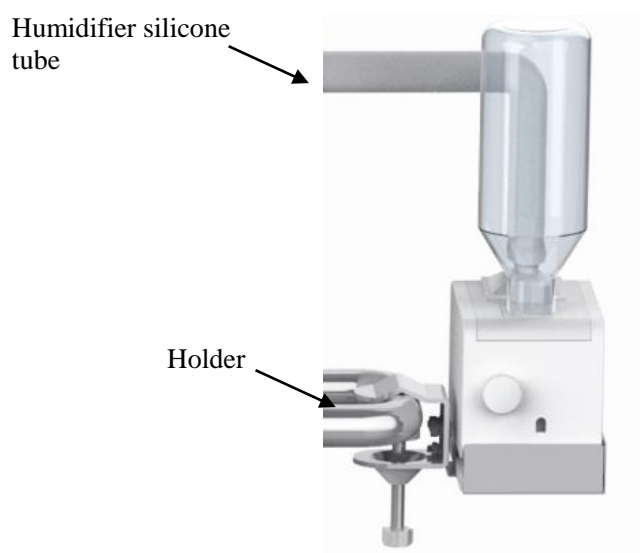

Figure 3-1
**Note:** The humidified silicone tube needs to be installed at a downward tilt or horizontally (refer to figure 3-1).
The bottle in figure 3-1 is not equipped, 550ml mineral water bottle could be selected and filled with clear water, and distilled water is recommended if possible.